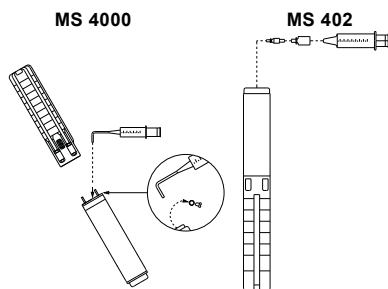

Fig. 3 Pump position during filling, MS 4000 and MS 402
1. Position the submersible pump as shown in fig. 3. Make sure that the filling screw is at the highest point of the motor.
3. Inject liquid into the motor with the filling syringe as shown in fig. 3 until the liquid runs back out of the filling hole.